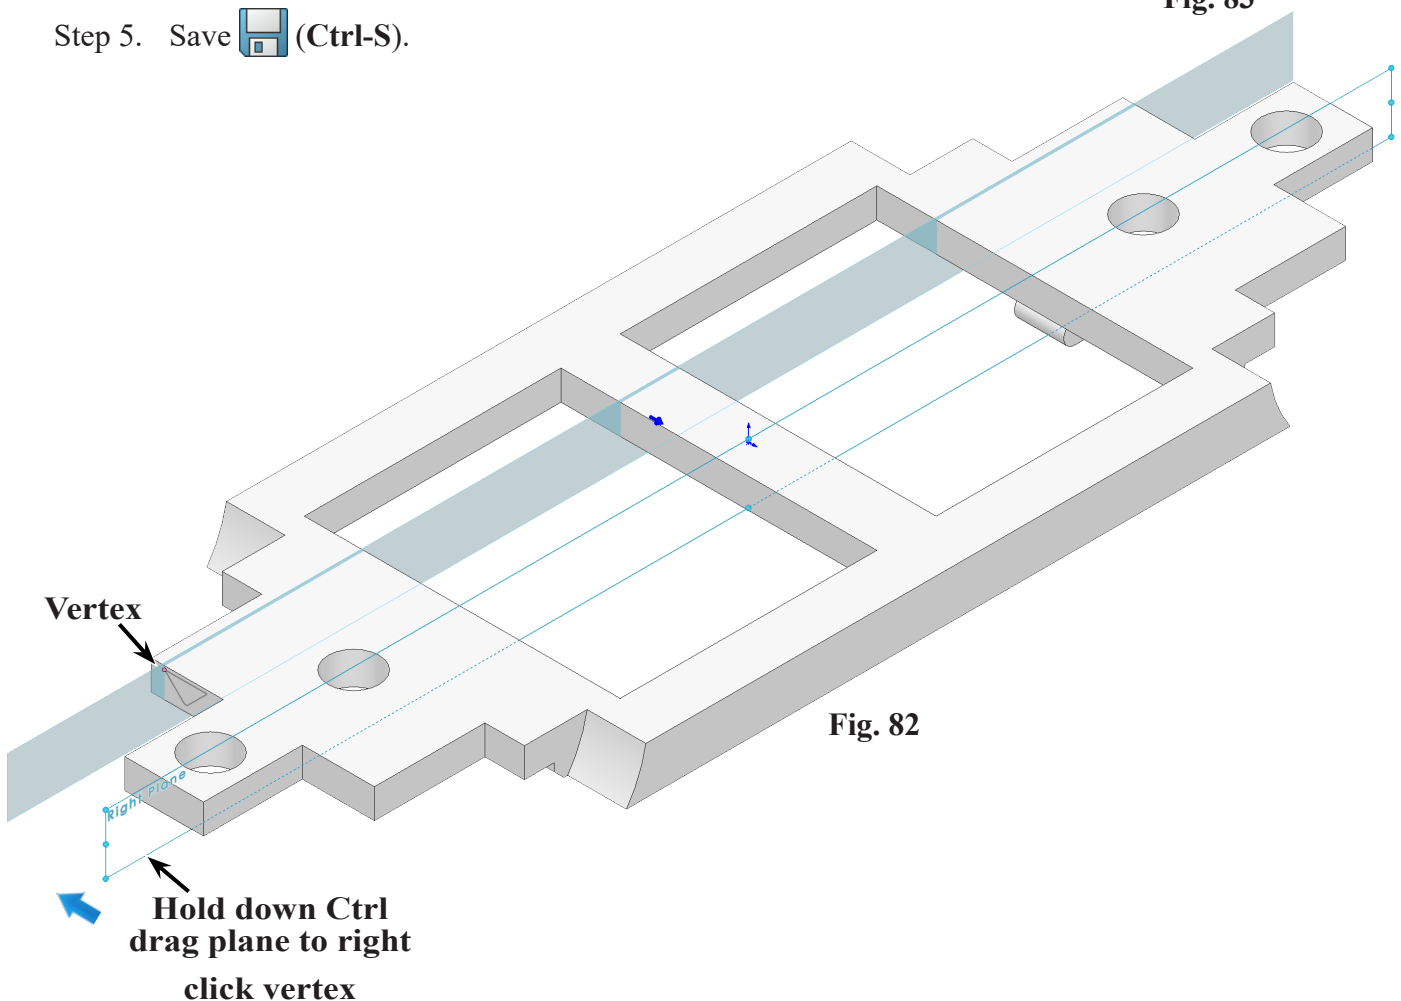

Fig. 82
Step 3. In graphics area **Ctrl drag Right plane** to right hand side of the deck (passenger's side) and release, **Fig. 82**.
click **far right vertex** of Sketch9, **Fig. 82**.